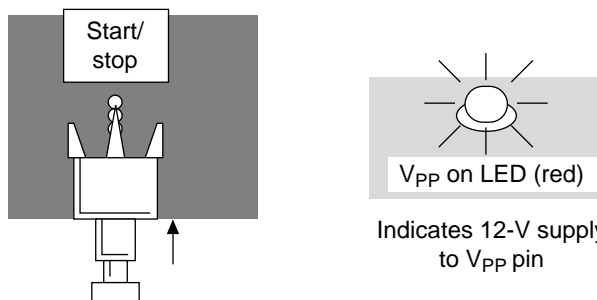

Figure 4.12 Transfer Switch Operation
5. Press the adapter board's transfer switch to supply 12 V to the Vpp pin. The adapter board's Vpp ON LED (red) lights at this time (figure 4.12). The F-ZTAT microcomputer goes into user program mode.